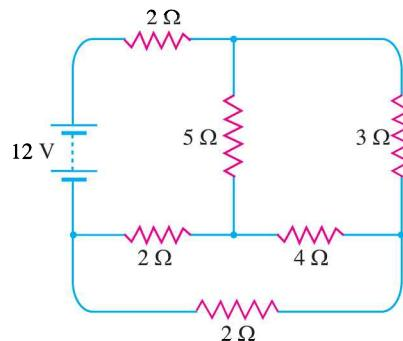

Fig. 1.53
8. Using Thevenin's theorem, find the current through 4 Ω resistor in the circuit of Fig. 1.53. [0.305A]